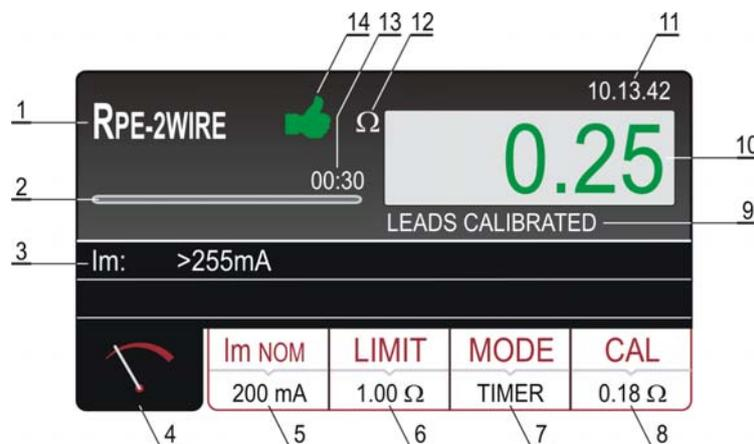

Figure 5: Display with RPE-2WIRE test result
- 8) Carry out the measurement by pressing the **START/STOP** button. Test result will currently be displayed in green (result lower than or equal to set limit value) or in red colour (result higher than set limit value). Final result will be equipped with green  symbol and with beep-beep sound (result OK) or with red  symbol and with longer beep sound (result not OK) or with yellow  symbol and with beep-beep sound (result OK, but measurement current was too low). See the display outlook with test result on figure 5.